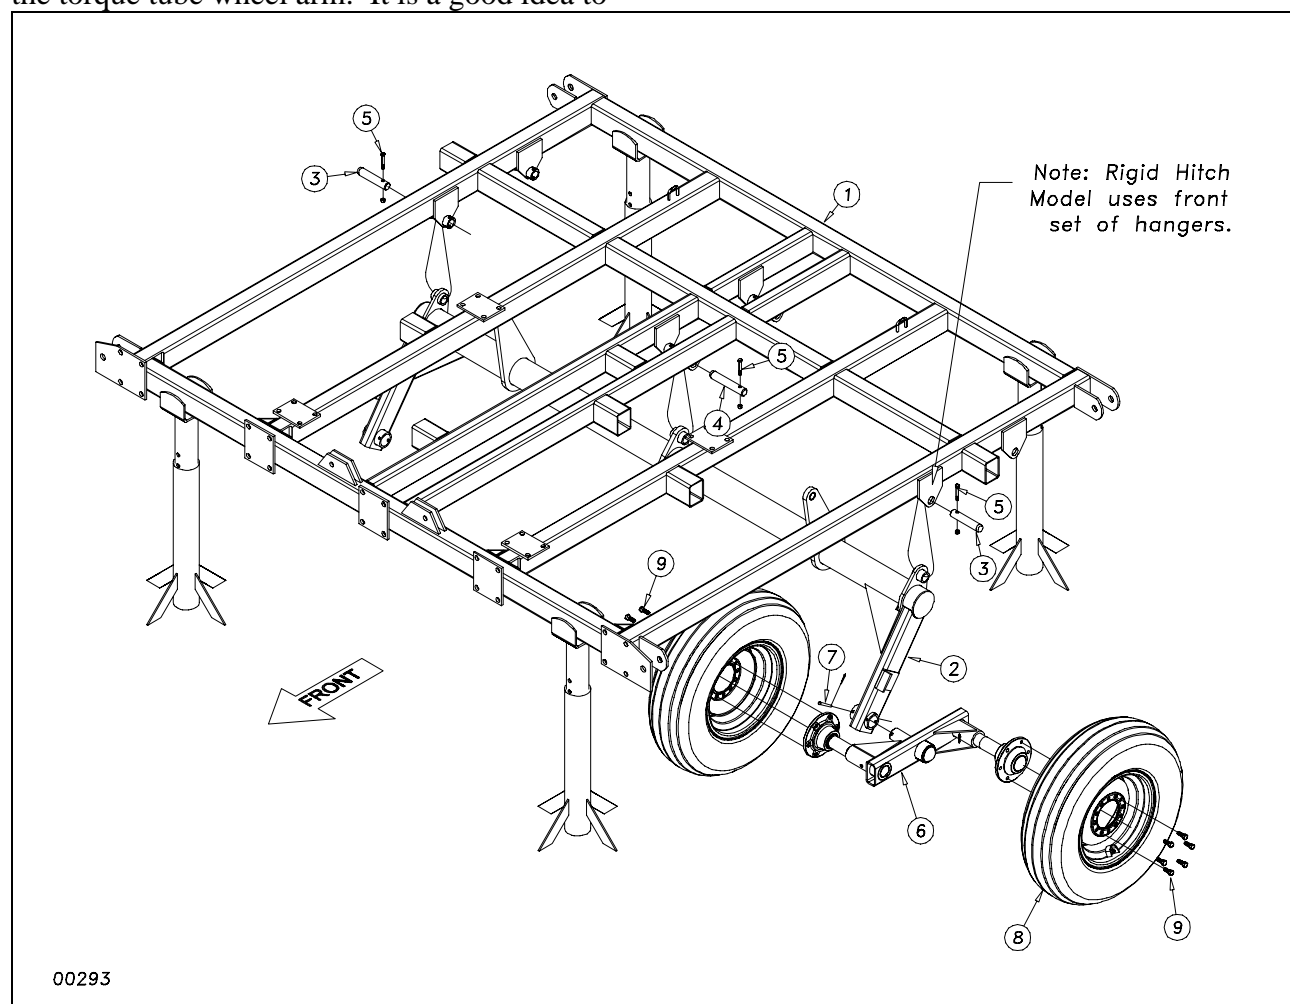

Figure 1
After uncrating the machine, place the center frame (1) Figure 1, in the center of your work area on stands. Pin the torque tube (2) to the center frame with the  $1\frac{1}{4}$  x 6 pins (3) and  $1\frac{1}{4}$  x 7 pin (4), secure them with the  $\frac{3}{8}$  x 2  $\frac{1}{4}$  GR 8 hex bolts (5) & lock nuts.